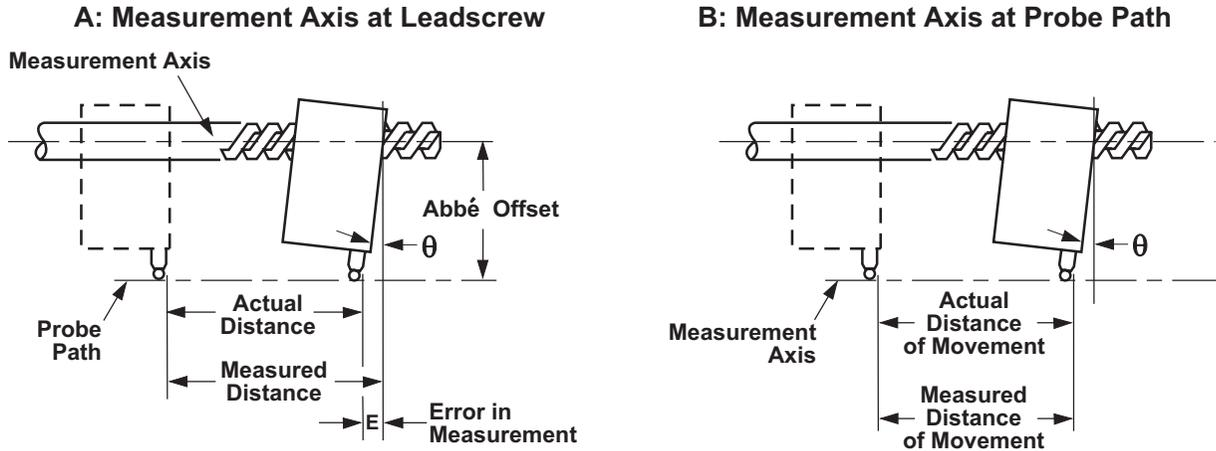

Figure 54 Abbé error
Figure 54 shows an example of Abbé error, and illustrates the requirements for minimizing angular error and minimizing offset of the scale from the measurement path. In Figure 54(A), the carriage is positioned by a leadscrew and the measurement axis is at the leadscrew centerline. This figure illustrates the displacement (Abbé) error E, which is generated at the measurement probe tip due to unwanted angular motion ( $\theta$ ) of the carriage during the measurement. Figure 54(B) shows the same carriage motion as Figure 54(A), but with the measurement axis coincident with the probe path. Here, the measurement system measures the actual displacement, thus no Abbé error exists. In general, reducing the Abbé offset will reduce sensitivity to unwanted angular motions.